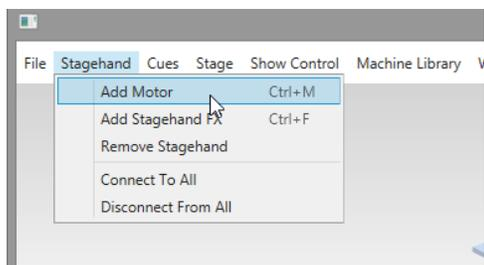

Figure 168
1. From the Stagehand menu select Add Motor and adjust all of the configuration parameters in the Stagehand Editor Pane that you want to be included in the Machine Library template (Figure 168).